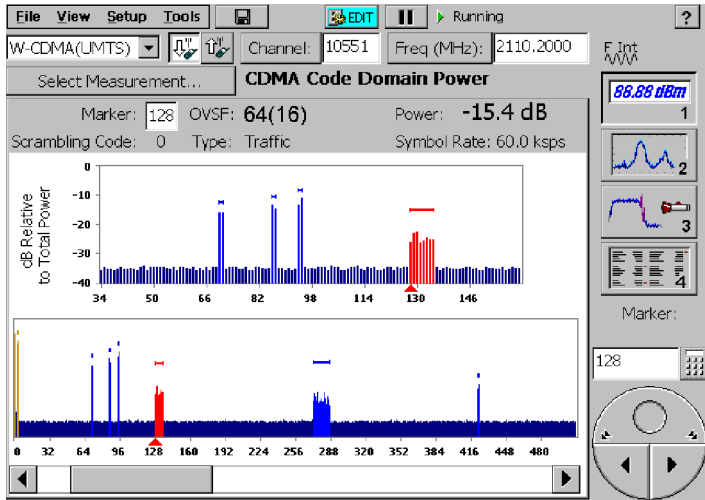

Figure 3-51: W-CDMA Code Domain Power display
5. Tap **Code Power**. See Figure 3-51.